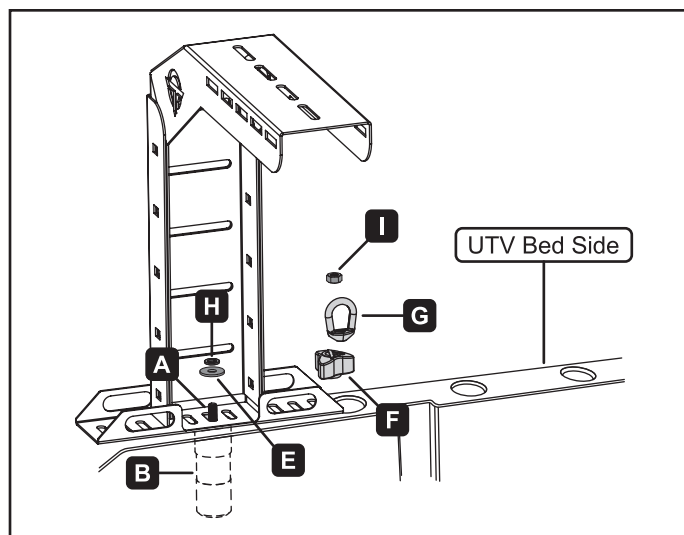

Figure 1.
1. Insert the assembly of parts A, B, C and D (and accessory) into the desired location as shown in figure 1.
2. Place the washer (E), lock washer (H) and selected fastener (F, G or I) onto the bolt.